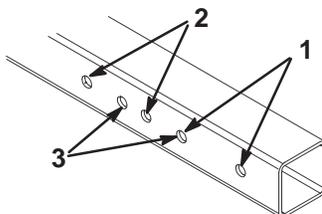

Figure 2
1. Refer to figure 2 to determine which mounting holes should be used to fit the width of your greensmower.
Note: On Greensmaster 1000 equipped with a groomer, Model 04052, the wheel shaft, on the groomer end, must be removed and a new wheel shaft, part no. 106-5385 must be purchased and installed. Also, the rail assembly, on the groomer end, must be mounted in the outside (GR 1600) hole locations (Fig. 2).